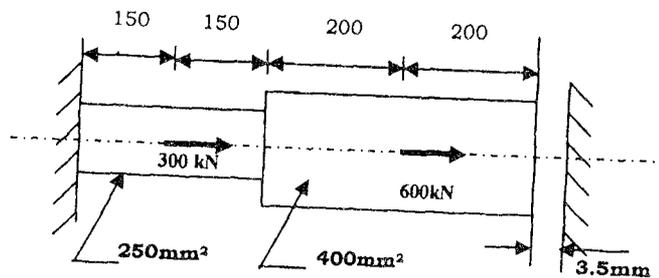

Figure 2
- (b) A steel bar element as shown in figure 2. is subjected to axial force at two locations. The bar is rigidly fixed at one end free to displace by 3.5 mm at the other end. Determine the nodal displacement.